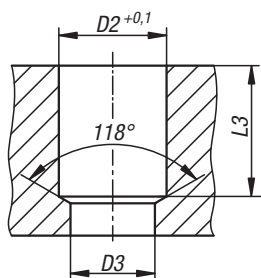

Abb.2
- Tolerance otvoru D2 = $+0,1$ mm (Abb. 2)